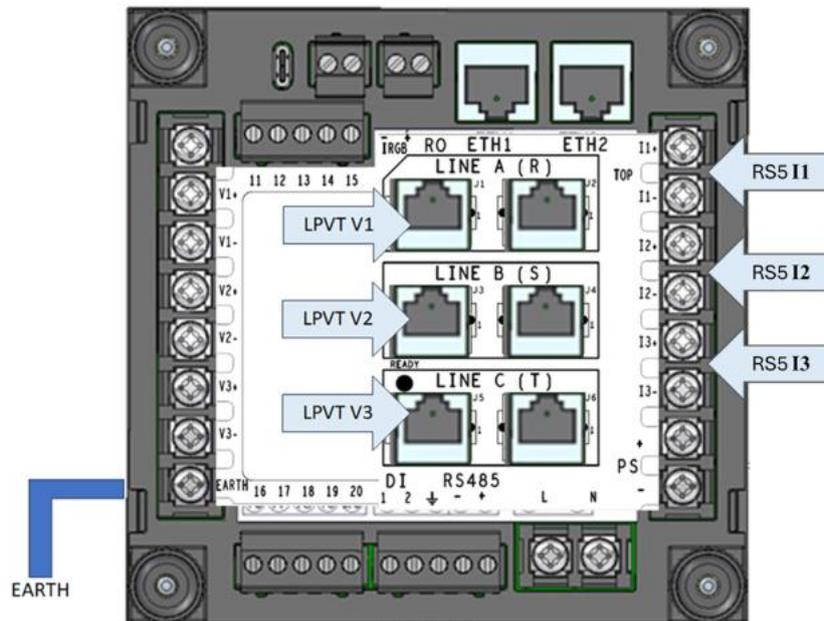

Figure 6-8. Connection diagram
- The EARTH wire must be at least 4 mm² square section connect to dedicated screw as shown on Figure 6-8.